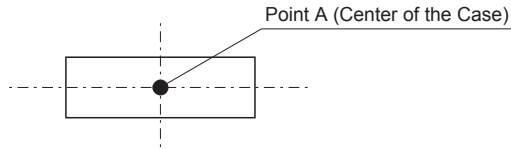

Fig.7.1 Temperature Measuring Point on the case (Top View)
■ Please have sufficient ventilation to keep the temperature of point A in Fig.7.1 at Table7.1 or below. Please also make sure that the ambient temperature does not exceed 85°C.